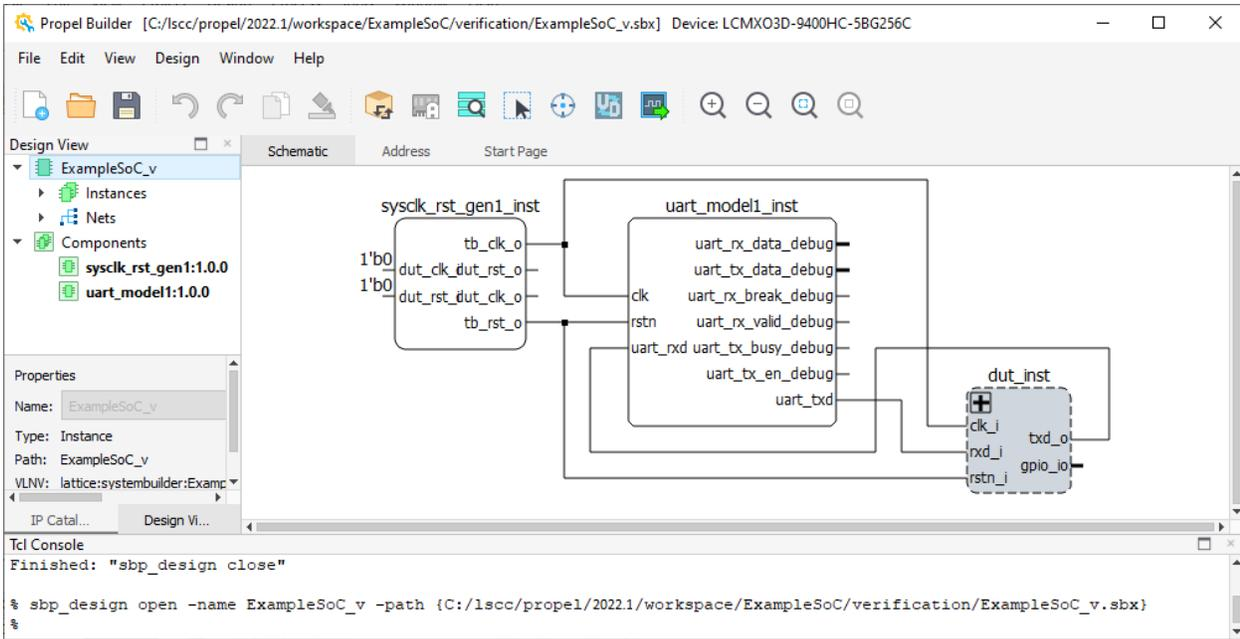

Figure 3.29. SoC Verification Project
2. Click the **Switch** icon  on the toolbar to switch between SoC design and SoC verification project (Figure 3.29).
3. After the SoC design is switched to a SoC verification project, click the **Generate** icon  to generate the simulation environment for OEM ModelSim. Click the **Launch Simulation** icon  (Figure 3.29).